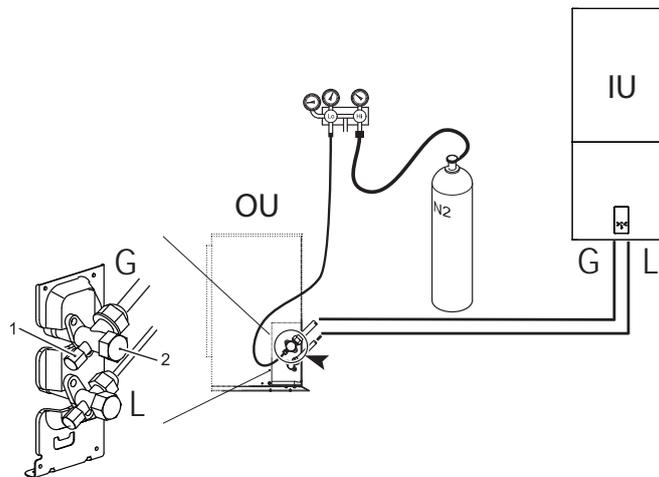

fig. 14 - Airtight test and leakage detection
- With the service valves of the outdoor unit completely shut, remove the cap from the service tap (part 1 - fig. 14) and the union (part 2 - fig. 14) of the gas valve (the larger one)